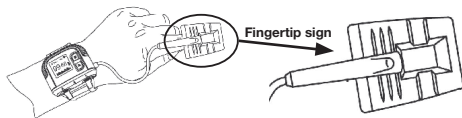

Figure 6 Placement Illustration
2. Fix the oximeter on your left wrist (Figure 6);
3. Then, hold the probe with its opening towards your index finger. The probe should be oriented in such a way that the sensor side with a finger tip icon is positioned on the top (Figure 6).